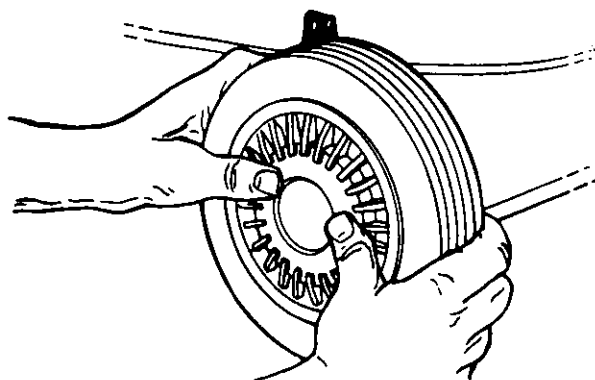

FIGURE 11.
2. Place hub caps in position against the inner hub of the wheel. Press firmly around the center portion of hub cap in a circular motion, similar to installing a lid on a round, plastic container. See figure 11. The hub caps are flexible and will snap over the 3 1/2" diameter wheel hubs.